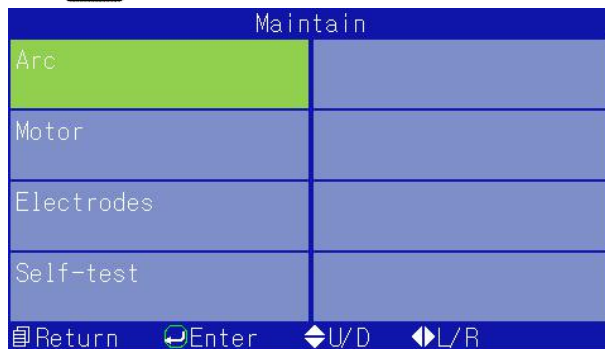

Fig. B-1 Maintenance menu
The maintenance menu contains four parts: function tests of ARC discharge, motors and electrodes, as well as splicer self-check, as shown in Fig. B-1. Function test of ARC discharge is to detect and adjust the ARC power intensity. Function test of the motors is mainly to detect and calibrate fiber overlap while ARC splicing, and to detect motors operation. Function test of the electrodes mainly includes replacement of the electrodes, electrodes stabilization, as well as display and zero of discharge counts. The operation process is as follows:
- a) Choose Maintenance in the main menu, press  to enter, the maintenance menu displayed by the splicer is shown in Fig. B-1.